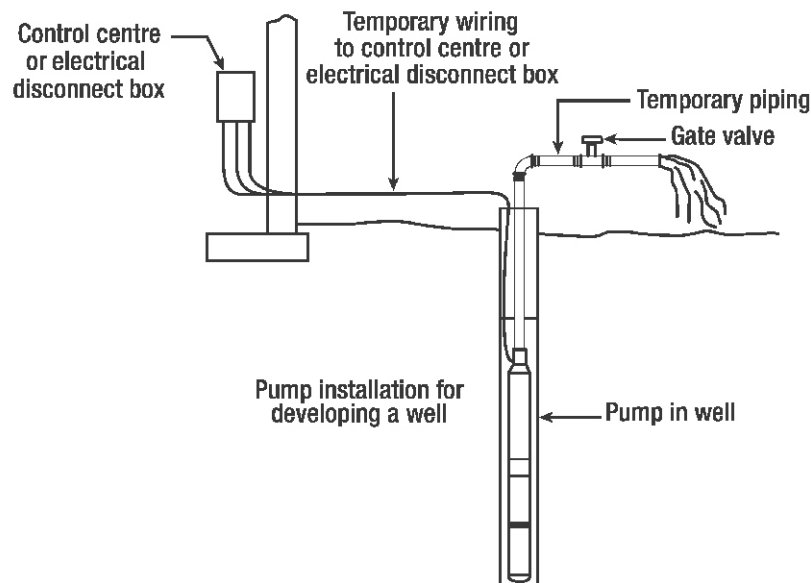

Figure 12 — Typical pump start-up
1. Connect a pipe elbow, a short length of pipe and a gate valve to pump discharge at well head (see Figure 12).
5. Set gate valve discharge 1/3 open; start pump (see Figure 12).